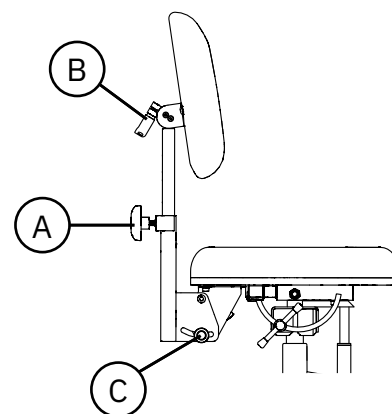

Figure 5.24. Standard backrest mechanism.
The standard model has adjustable height (A), back support angle (B) and back-rest mechanism angle (C) (see Figure 5.24). The back recliner can be adjusted in the range of 15° forward to 30° backwards.